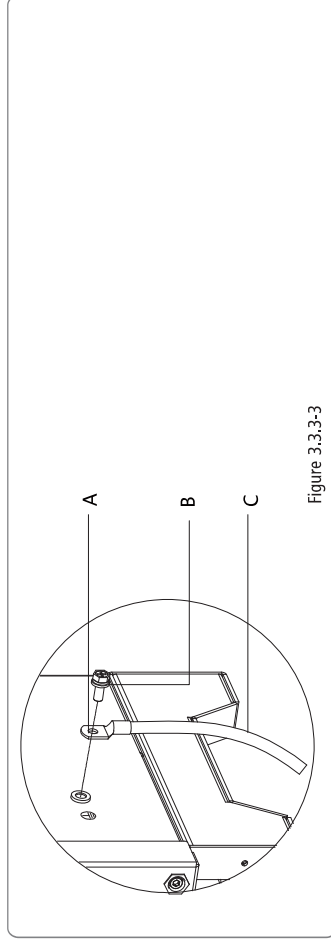

Figure 3.3.3-3
1. Strip the wire insulation sheet of a suitable length with a wire stripper, illustrated as Figure 3.3.3-1.
2. Insert the stripped wire into the terminal and compress it tightly by crimping pliers, illustrated as Figure 3.3.3-2.
3. Fix the earth wire on the machine, illustrated as Figure 3.3.3-3.